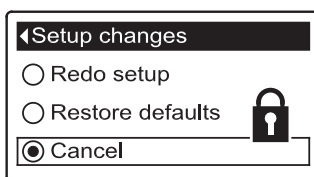

FIG. 84
8. Press the RIGHT (▶) button. A flashing padlock icon will appear, as shown in Figure 84.
- 1-7. Go to the **Setup changes** screen (Figure 84) by following Steps 1-7 at left.